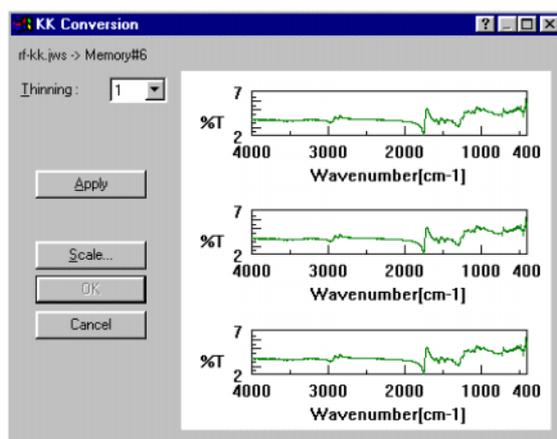

Fig 2.31 [KK Conversion] dialog box
*Note: Figure 2.31 shows spectra before execution of KK conversion, therefore, all three spectra in the spectrum display area are the same. After execution, the top spectrum is the original spectrum, the middle spectrum is the KK-converted spectrum and the bottom spectrum is the refractive index spectrum obtained through calculation.*